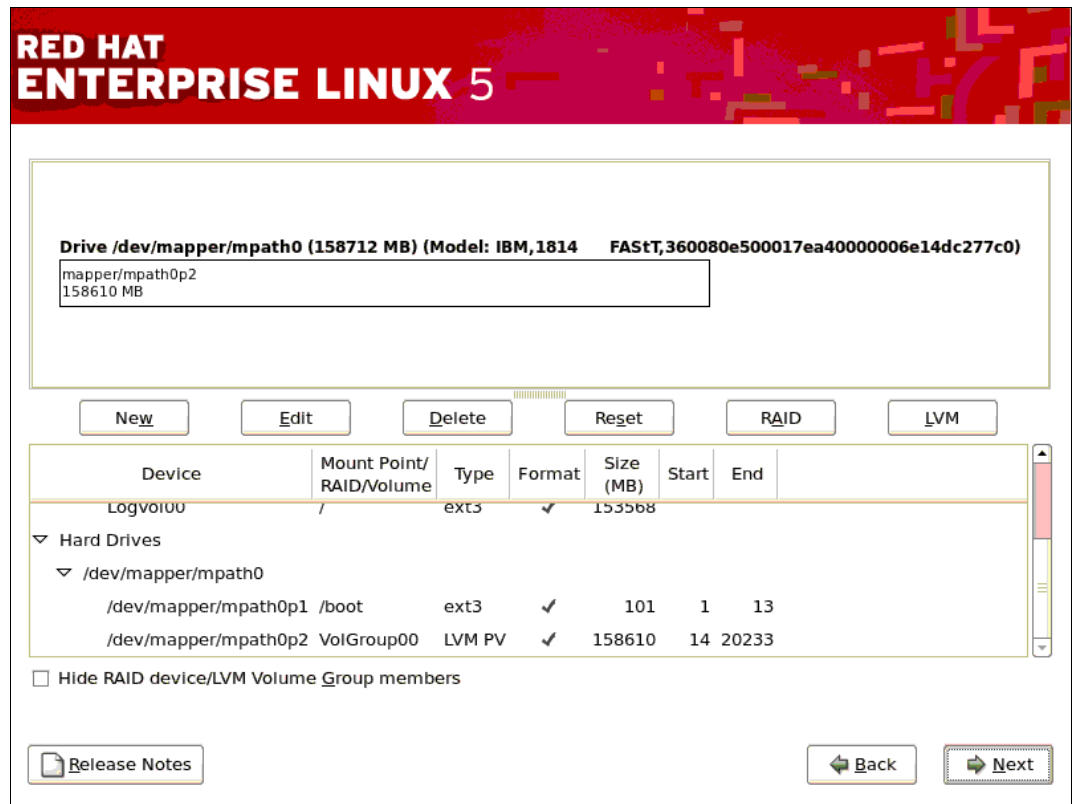

Figure 6-45 Device mapper
- The next window displays additional details regarding the default RHEL partitioning and filesystem layout and the use of the related multipath devices, as shown in Figure 6-45. The multipathing feature will be enabled for all the operating system partitions created on a multipath device during installation.